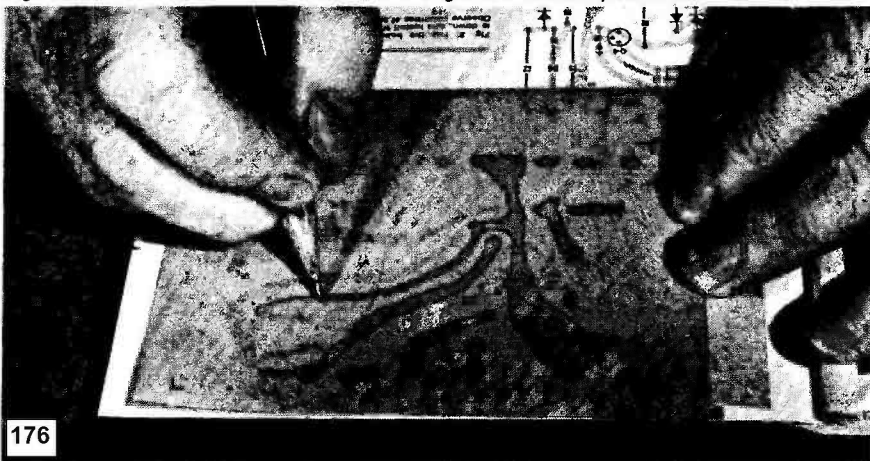

Fig. 1. Place the Letrafilm over the diagram.
3) Lay the Letrafilm over the diagram (see Fig. 1) and hold it down at one side with sticky tape. It will be found that the diagram can be seen quite clearly through the Letrafilm.